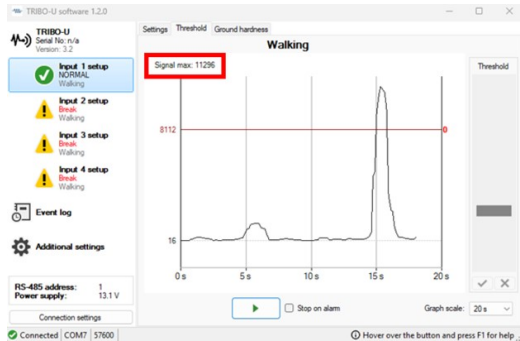

Fig. 17
- Observe the peak value of the signal displayed on the screen. (Fig. 17)